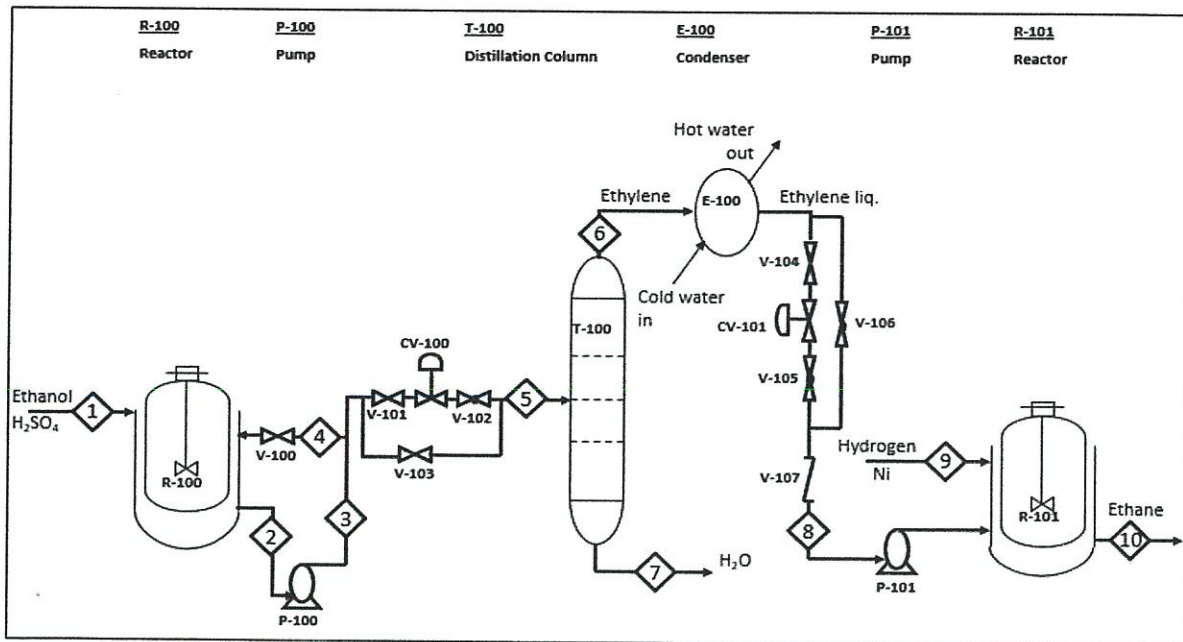

Figure Q2 (a)
- (i) Explain **FOUR (4)** examples of industries (4 marks)
- (i) Compare **TWO (2)** differences between process flow diagram (PFD) and process & instrumentation diagram (P&ID). (4 marks)
- (ii) Based on **Figure Q2 (a)**, explain the process in your own words. (4 marks)